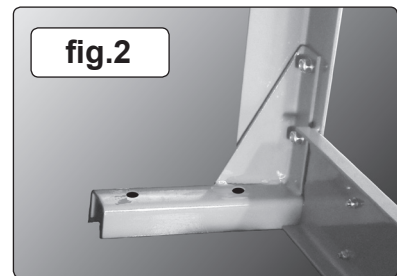

fig.2
- 4.2. Fasten the four support brackets (fig.1.3) to the leg frames using the fixings provided (fig.2).